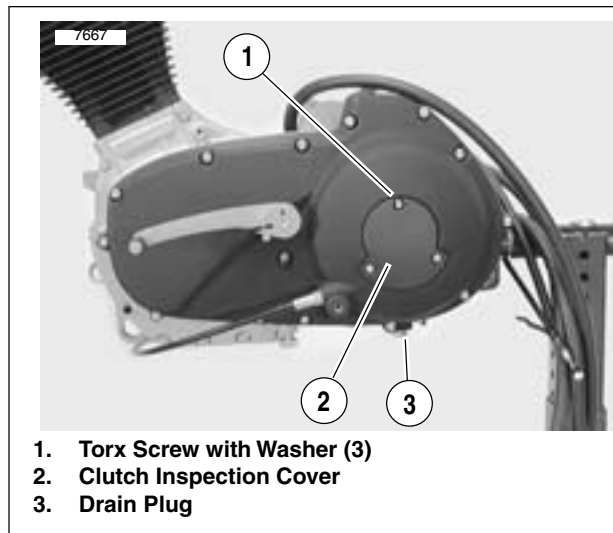

Figure 6-11. Primary Cover
- See Figure 6-11. Position a suitable container under drain plug (3). Remove plug and drain fluid.
- Wipe any foreign material from the magnetic drain plug (3). Reinstall plug. Tighten to 14-30 ft-lbs (19-54 Nm).
- See Figure 6-11. Install clutch inspection cover and new gasket with three TORX screws with washers. Tighten in a crosswise pattern to 7-9 ft-lbs (10-12 Nm).